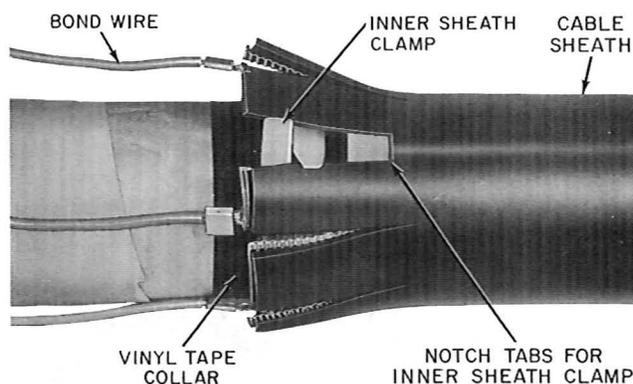

Fig. 16—Preparing Feeder Cable
7.07 Attach the B Bond Clips of the 27-1/4 inch leads of the P-21E642 Bonding Harness Assemblies to the aluminum shield. Each clip should be attached to a different aluminum tab (Fig. 16).
7.08 Place the inner sheath clamp under the tabs, with the ears of the clamp in the notch cut in the front tab for this purpose. The ears of the clamp extend to the outside of the sheath to make contact with the splice case for bonding purposes (Fig. 16). Place linen tags on the feeder cable to identify the cable units.